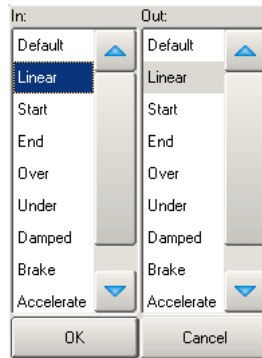

Figure 20.3. Selecting a Path in a Cuelist Window
2. Choose a path from the displayed list; see *Figure 20.3, “Selecting a Path in a Cuelist Window”*.